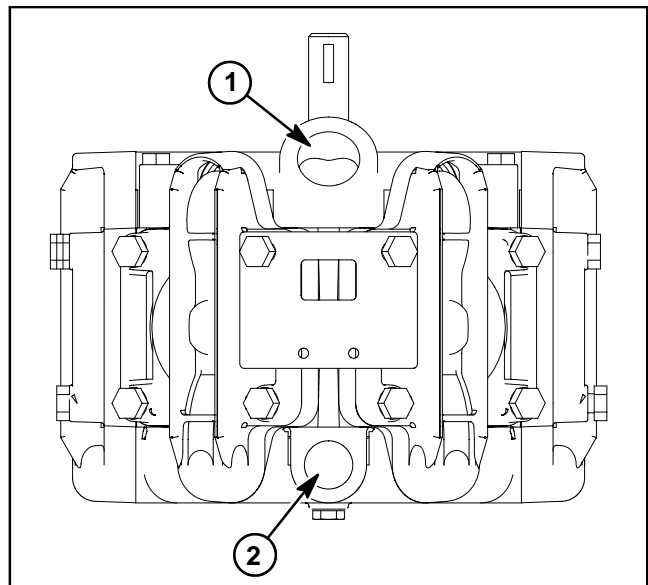

Figure 4
1. If pump fitting (supply) and/or pump fitting (suction) were removed from pump, apply thread sealant to fitting threads and install fitting(s) into correct pump port (Fig. 4).